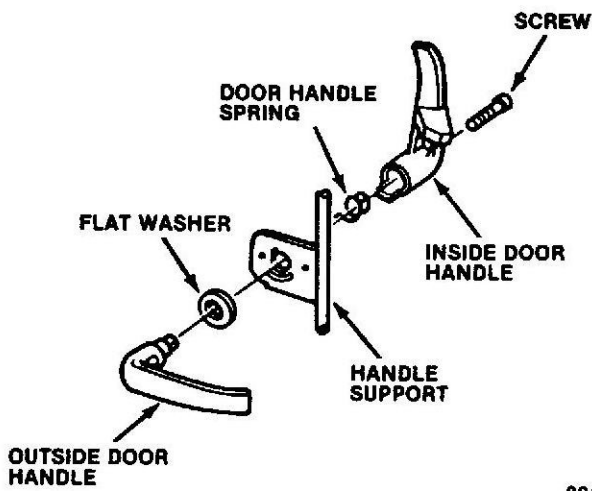

Fig. 8 Fabric Door Handle Assembly
- (4) Assemble door handles (Fig. 8). Place 5/8 flat washer over outside handle shaft and insert shaft through hole in door. Inside handle has cavity for torsion spring. Left door spring is metal color. Right door spring is purple color. Insert applicable spring into each inside door handle (end of spring with long tang inserted first). Position inside handle so it mates with hexagonal end of outside handle shaft. Rotate handles slightly until spring tang enters small slot at top of mounting plate hole. Rotate handles forward and compress together. Secure handles with number 8 x 1-3/8 self-tapping screw. Repeat procedure for opposite door handle.